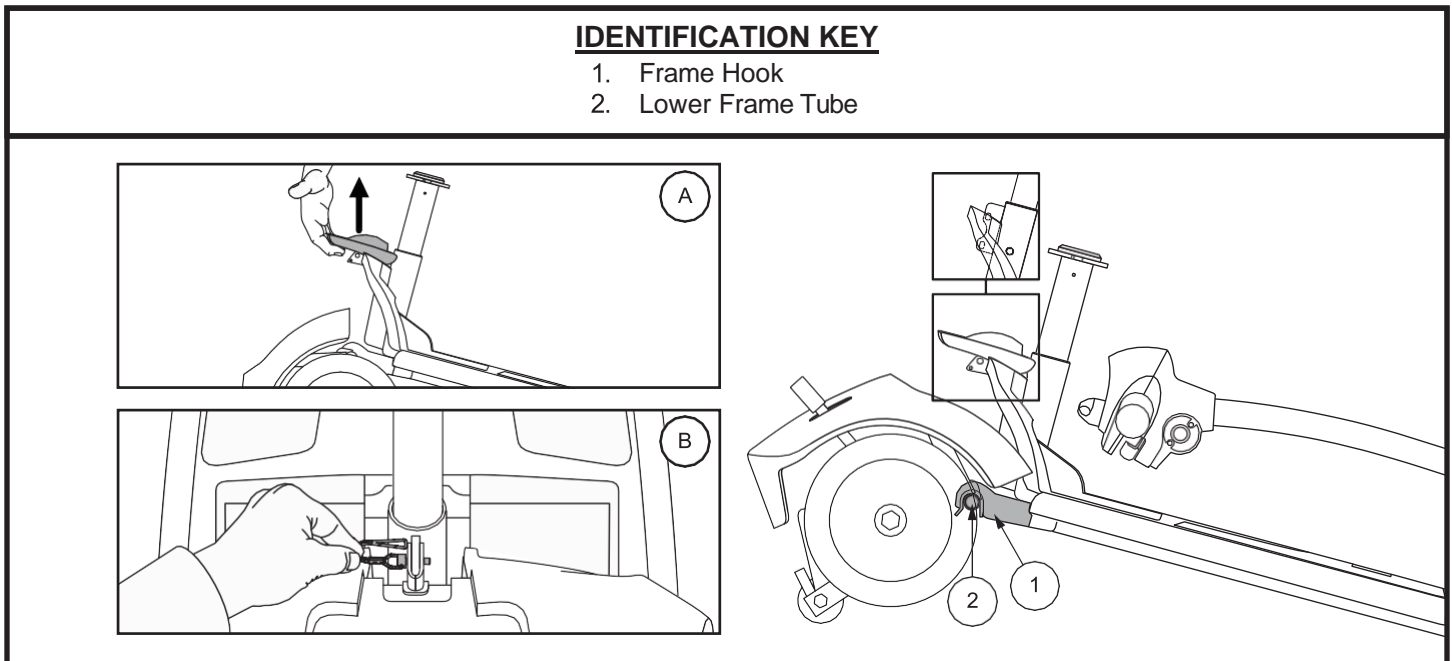

Figure 33. Frame Release Lever (Style A) and Frame Release Lock-up Pin (Style B)
3. Slowly separate the two sections of the Travel Scooter. **See figure 33.**
NOTE: Before attempting assembly, tilt the rear half of the Travel Scooter slightly back on the anti-tip wheels as shown in figure 33.
1. Use the frame release lever to lift the front section as you align the frame hooks of the front section with the lower frame tube of the rear section. **See figure 33.**